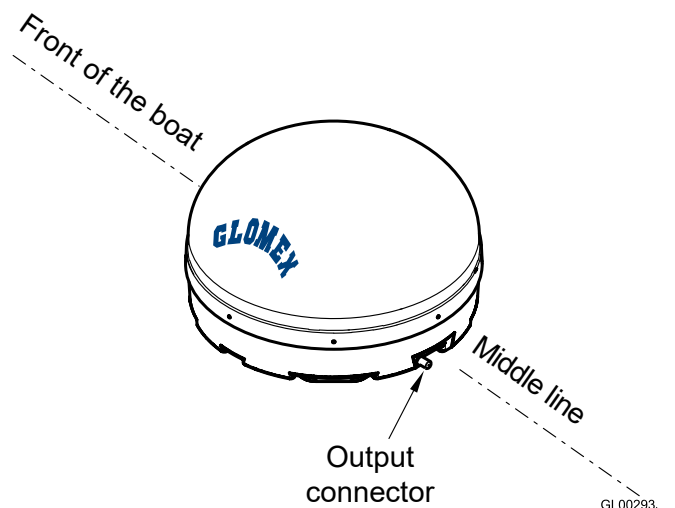

Fig. 10
4. Place the antenna in the appropriate position on the vehicle middle line, respecting the installation direction indicated in **Fig. 10** and apply a good pressure on the radome sides to make the plates correctly adhere to the mounting surface. Wait for the sealant to solidify (time varies according to outer temperature).
For a correct assembly, respect the installation direction indicated in Fig. 10.